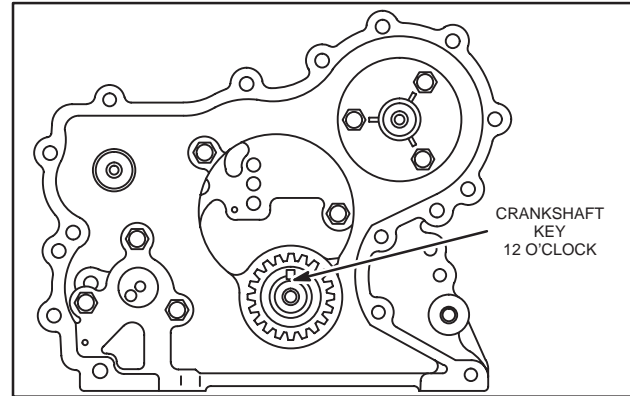

Fig. 17 – Crankshaft Position
3. Make sure crankshaft key is at 12 o'clock position as shown in Fig. 17.